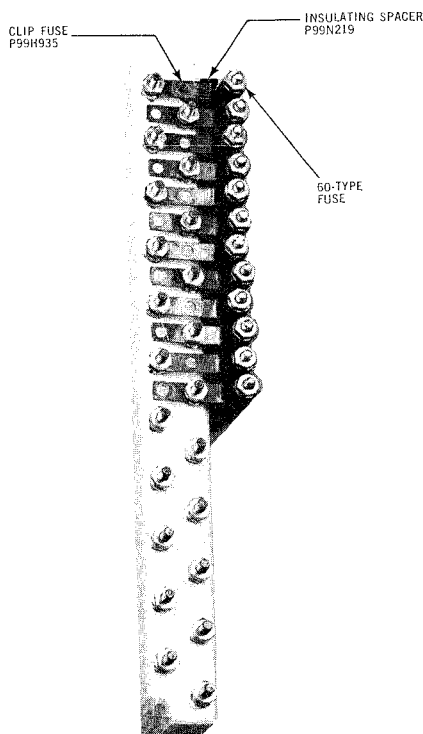

Fig. 18 — Connecting Block 5555 Equipped With 60-Type Fuses, Clip Fuse P99H935 and Insulating Spacer P99N219
4.35 The Connecting Block 5555 should be installed where several circuits require sneak fuse protection. Equip this connecting block with 60 type fuses, Clip Fuse P99H935 and Insulating Spacer P99N219 as shown. This connecting block should be used only where additional protection is required for sneak currents and the normal protector block operation has been provided. (Fig. 18)